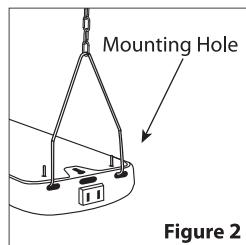

Figure 2
2. Attach chain to V-hooks then insert hooks into mounting holes located on endcap of the fixture (See Figure 2). Do this for both ends of lamp.